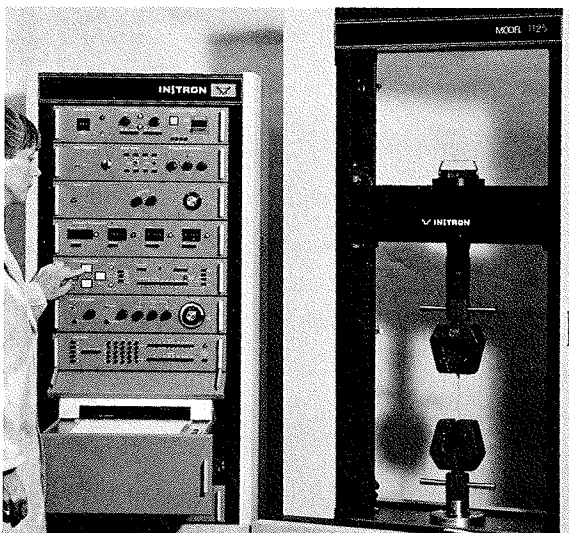

Figure 6-8. Starting a Load-Elongation Test
f. Push the UP button on the crosshead control unit to start the test (figure 6-8). The crosshead will move up until it reaches the upper limit stop. The specimen will presumably rupture. Depending upon the MAX LIMIT crosshead function switch depressed, the crosshead will either stop or return to gage length position.